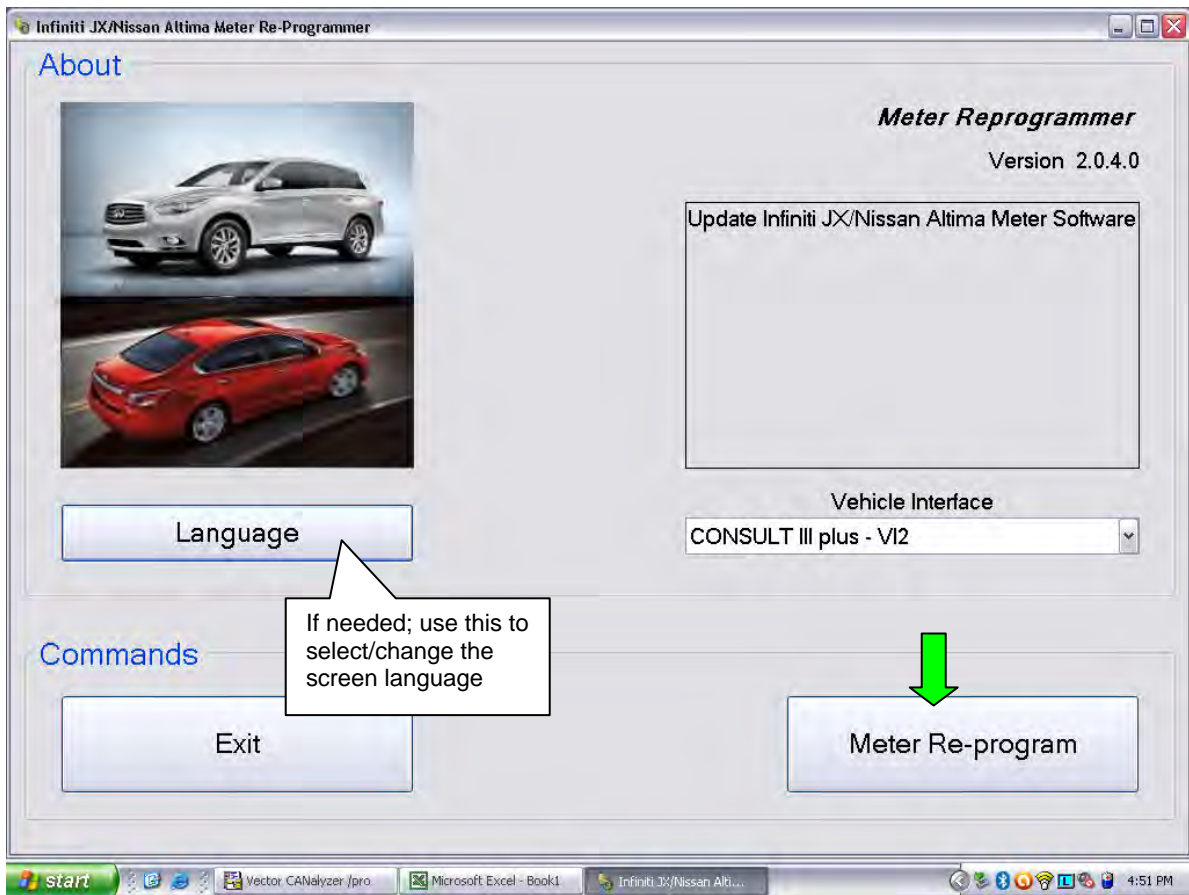

Figure 1
11. When the screen in Figure 1 displays, select **METER Re-program**.